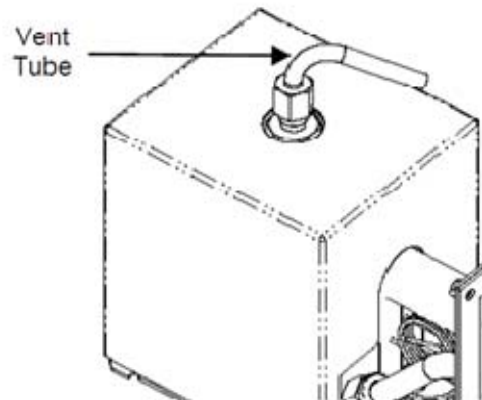

Figure 2
9. Remove the 1/4" vent tube from the top of the FID block using a 9/16" open ended wrench. Refer to Figure 2.